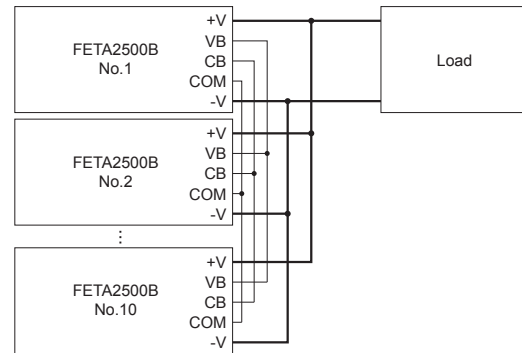

Fig.3.3 Example of N+1 redundancy operating connection
■ N+1 redundancy operation is possible by connecting units as shown in Fig.3.3.